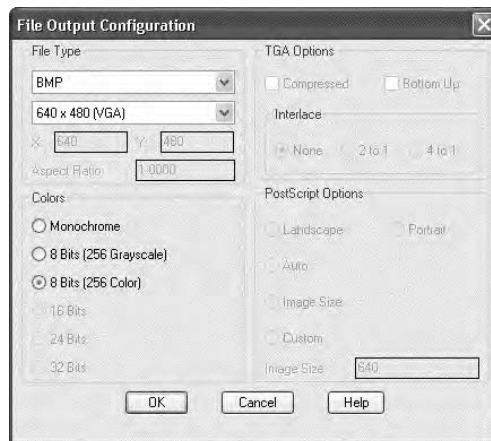

FIGURE A.41: The File Output Configuration dialog box
1. Click the Render button on the Render toolbar. In the Render dialog box, go to the Destination area, open the drop-down list, and select File. Then click the More Options button that is in the same area to open the File Output Configuration dialog box (see Figure A.41).